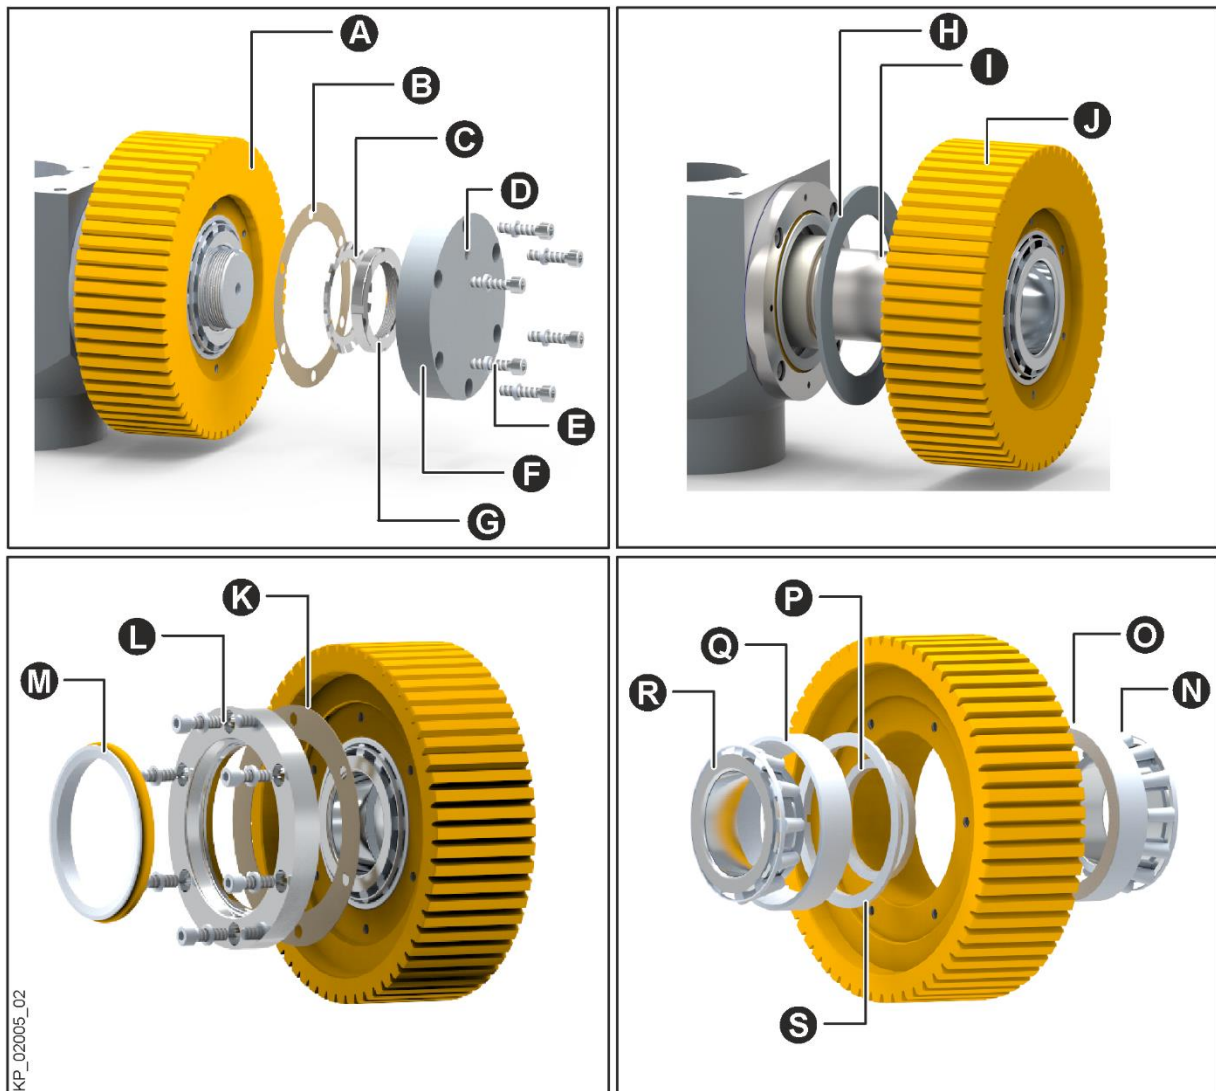

Fig. 52: Pan grinder rollers with axial face seal
- Turn the pan grinder roller until the screw plug (Fig. 52/D) is in the lower position.
- Remove the cheese head screws (Fig. 52/E) from the roller cover (Fig. 52/F) using a hexagon socket screw key.
- Unlock and remove the grooved nut (Fig. 52/G).
- Remove the locking plate (Fig. 52/C).
- Screw in 2 eye bolts instead of the cheese head screws (Fig. 52/E).
- Pull the pan grinder roller (Fig. 52/J) including taper roller bearings from the roller axle (Fig. 52/I) and lay it down in a trough.
- Turn the pan grinder roller and unscrew the inner cover (Fig. 52/L).
- Lift off the inner ring with cage of the inner bearing (Fig. 52/R).
- Lift off the inner ring with cage of the outer bearing (Fig. 52/N).
- Press the outer rings of the taper roller bearings (Fig. 52/Q, O) and the spacer ring (Fig. 52/S) out of pan grinder roller.
- Remove the inner spacer ring (Fig. 52/P).